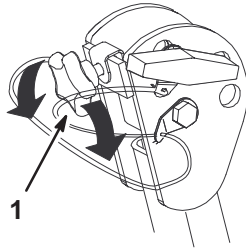

Figure 4
1. To lower the roll bar, loosen the front handles (Fig. 4).